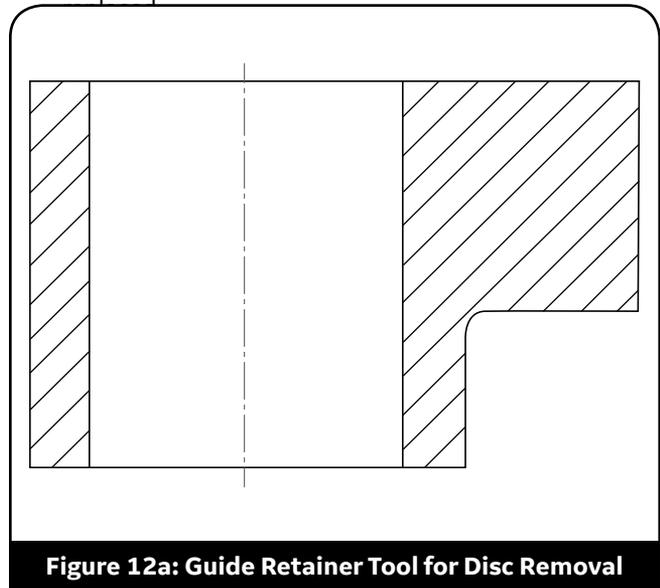
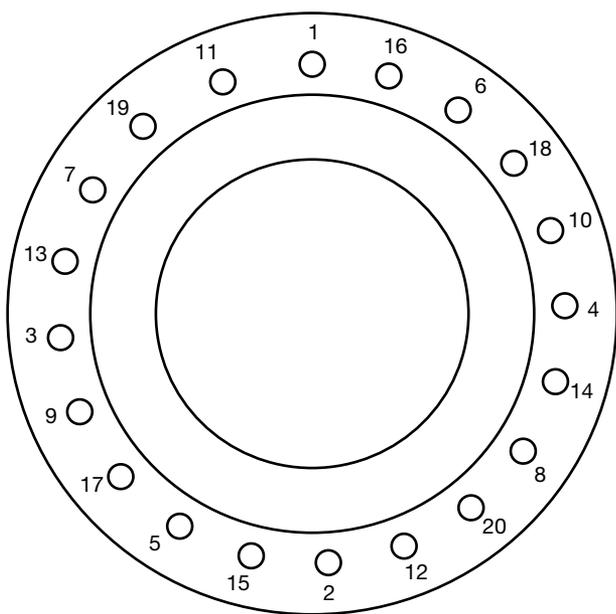

Figure 12a: Guide Retainer Tool for Disc Removal
Figure 18a: 20 Bolt Sequence
1. Remove bonnet stud nuts (23) from studs (22).
2. Using a sling through the three eyebolts (26), Lift Bonnet (19) vertically taking care not to bind bonnet against stud bolts.
4. Remove the Disc Spring (56) and Disc Spring Ring (57).
5. Fasten down Guide (8) with two Guide Retainer Tools for disc removal, (Figure 12a), held in place with two stud nuts, 180° apart. (BHGE Part No. 4215301). This will hold the guide in place while the disc is removed.
2. Using slings on the Center Post of the Disc (7), lower the disc into the guide. Using the assembly tool shown in Figure 12a in Section XV, force the disc down onto the seat bushing. Remove the tool after the disc is firmly installed.
3. Install the Disc Spring Ring (57) and Spring (56) on the disc.
4. Install a new Gasket (18) in the groove provided on the top of the guide.
5. Using slings through the eyebolts, lower the Main Bonnet (19) onto the base.
6. Install all Stud Nuts (23) and draw down bonnet evenly. Tighten securely all bonnet stud nuts. See Figures 18a and 18b with Table 6 for torque values.